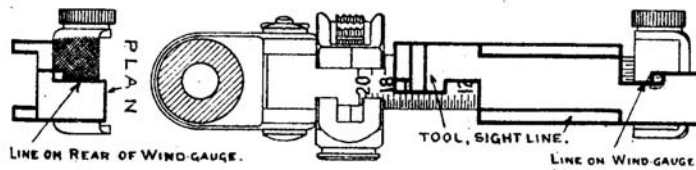

Fig. 3.
9. To re-line the windgauge or cap of the back sight of rifles No.1 and No. 2.—The tool, sight line, and scriber will be used in the following manner and as shown in Fig. 3.